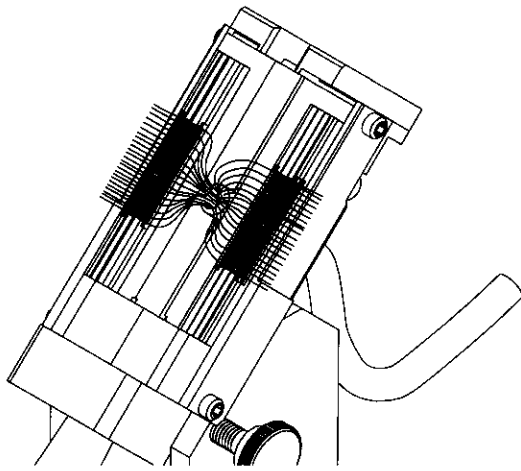

Figure 8
All wires are laced into the comb slots as shown in Figure 8. All wires should be completely inserted into the comb slots so that they are held firmly in place for cutting and insertion.
4. Continue lacing wires across slots and into combs until each wire is placed per the applicable color code. See Figure 8.